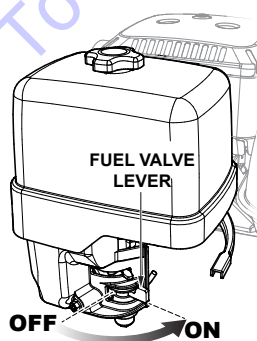

Figure 19. Fuel Lever
2. Move the fuel lever (Figure 19) to the ON position.